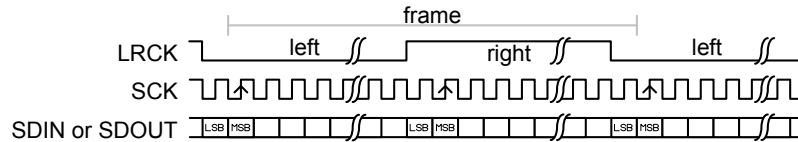

Figure 66: I²S format. Identical sample width and half-frame width. Left sample on low level of LRCK
- When using I²S format, the first bit in a half-frame (containing one left or right sample) gets sampled on the second rising edge of the SCK after a LRCK edge, as illustrated in Figure 66: I²S format. Identical